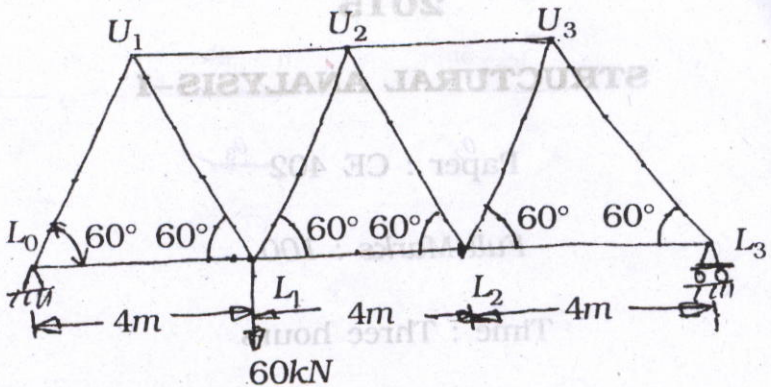

fig. 01
1. (a) The members of the warren girder shown in fig. 01 are so proportioned that all the members are stressed to  $100\text{N/mm}^2$  when a vertical load of  $60\text{kN}$  is applied at  $L_1$ .